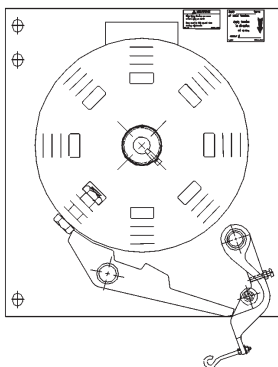

FIGURE 36
- The released tension headplate assembly should look like Figure 36 (see page 20).